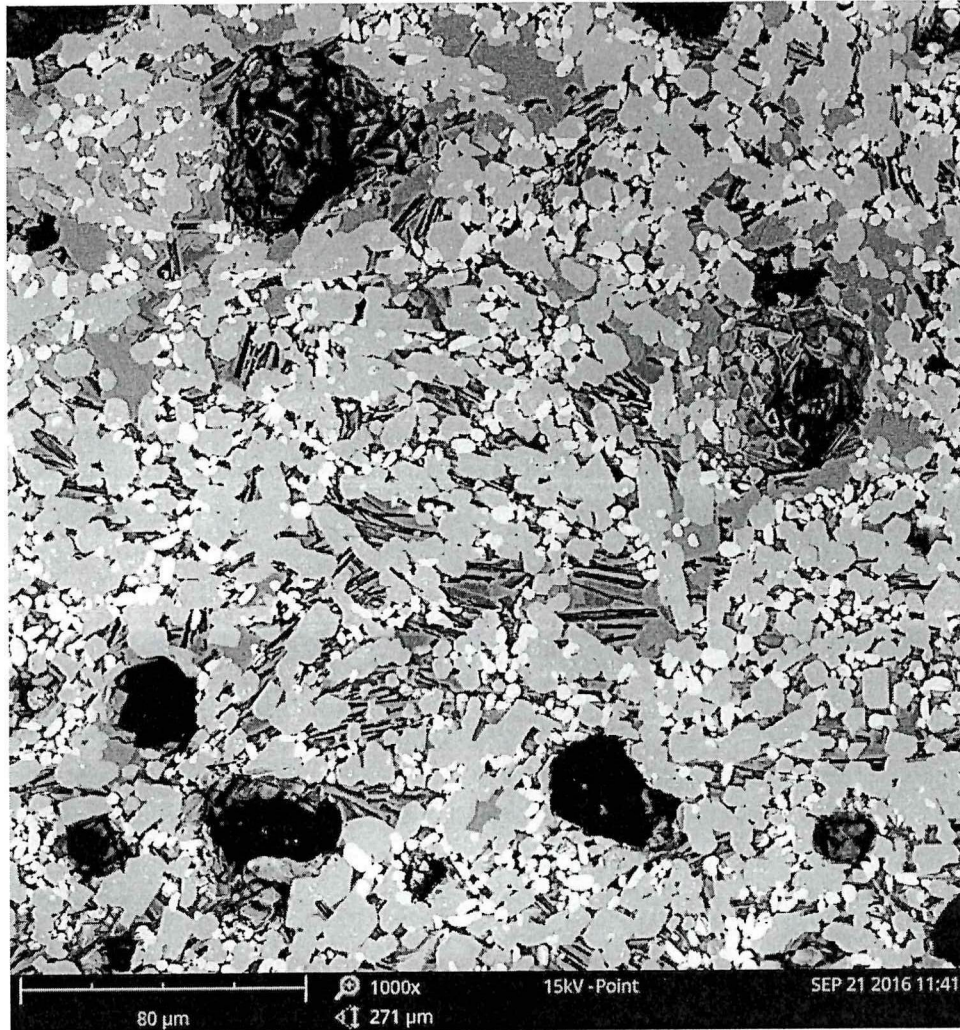

Figure Q5(b)
- Q5** (a) List **TWO (2)** types of electron microscope that are widely used in materials science research. (2 marks)
- (b) Identify the area of the following statements by considering **Figure Q5(b)**: [Note: Point the areas/regions in **Figure Q5(b)** and submit **Page 5** together with your answer's booklet.]
- (iii) **TWO (2)** different crystal regions. (2 marks)